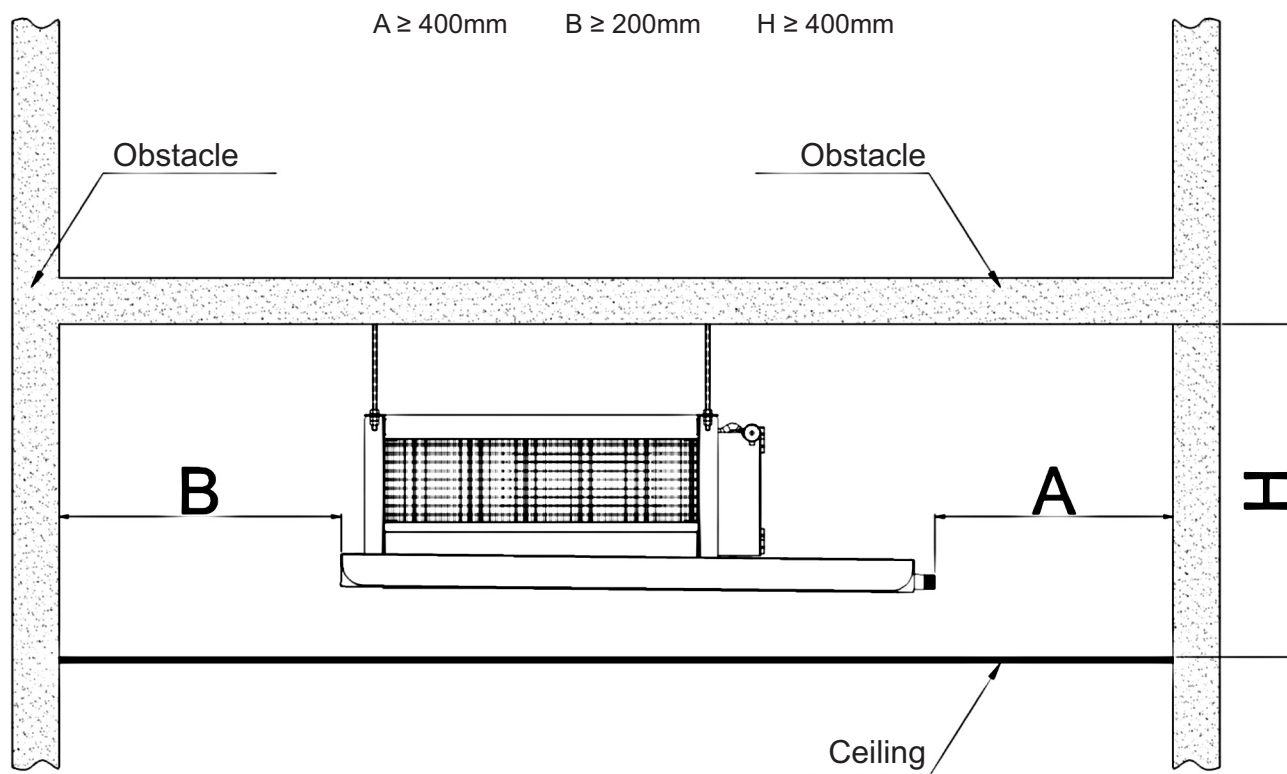
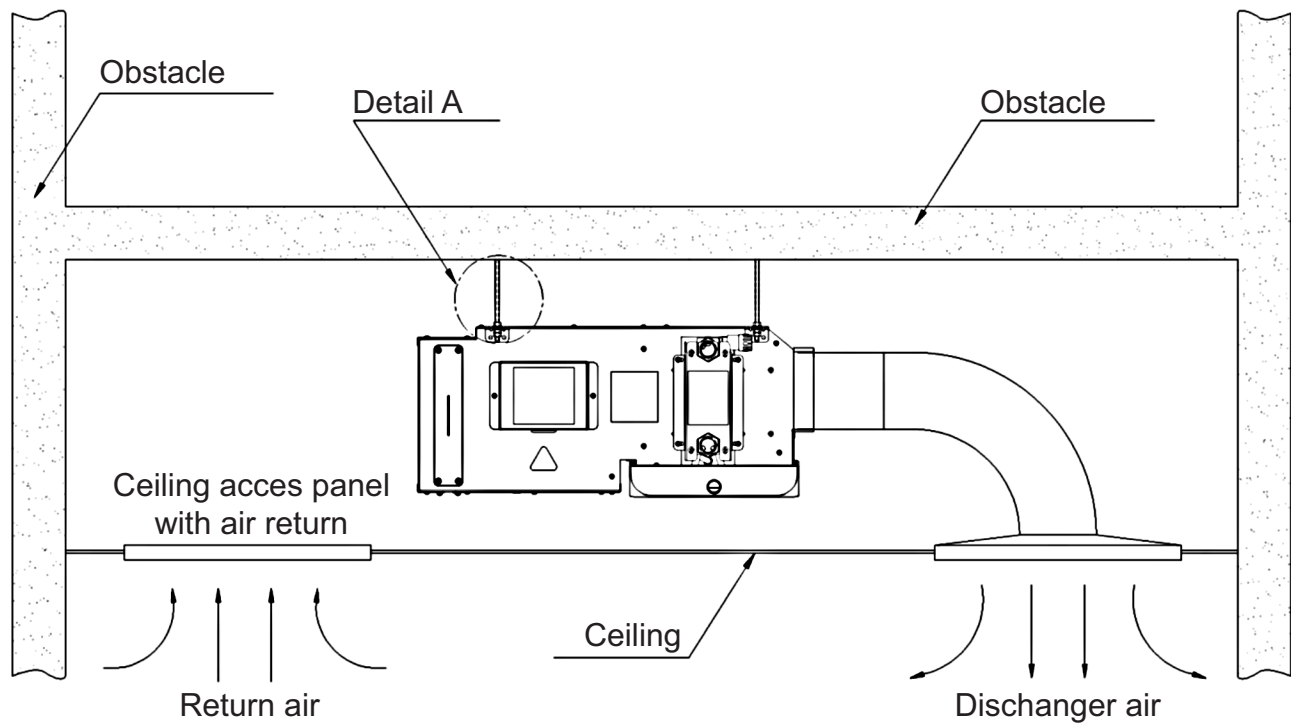
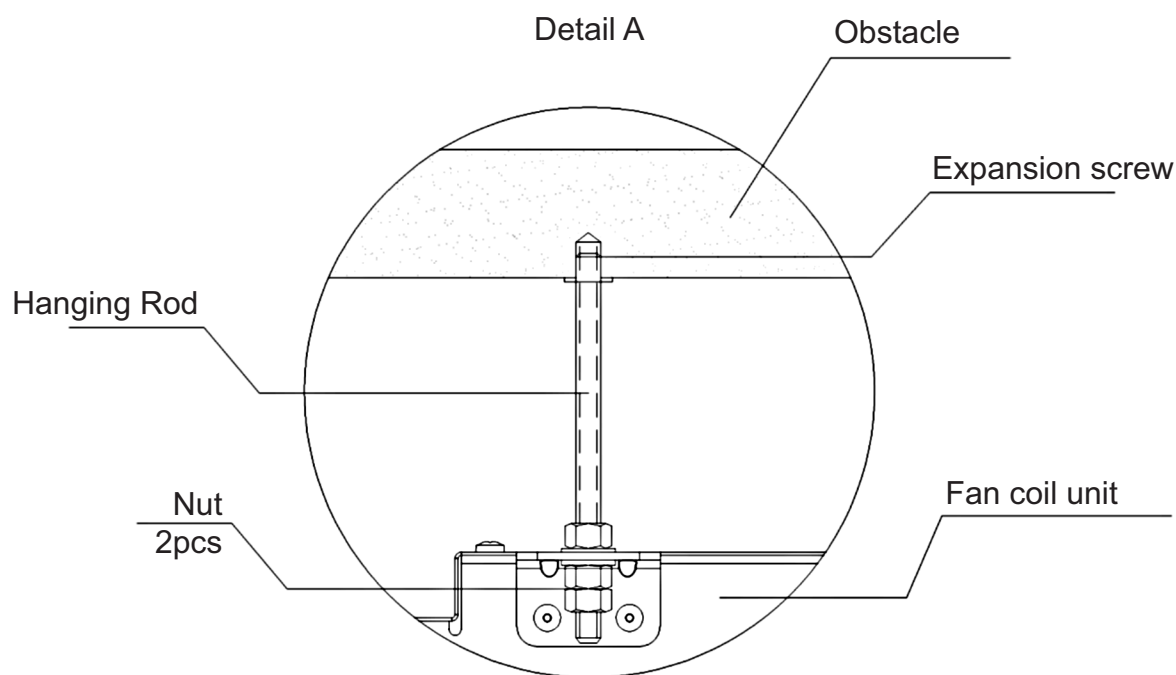
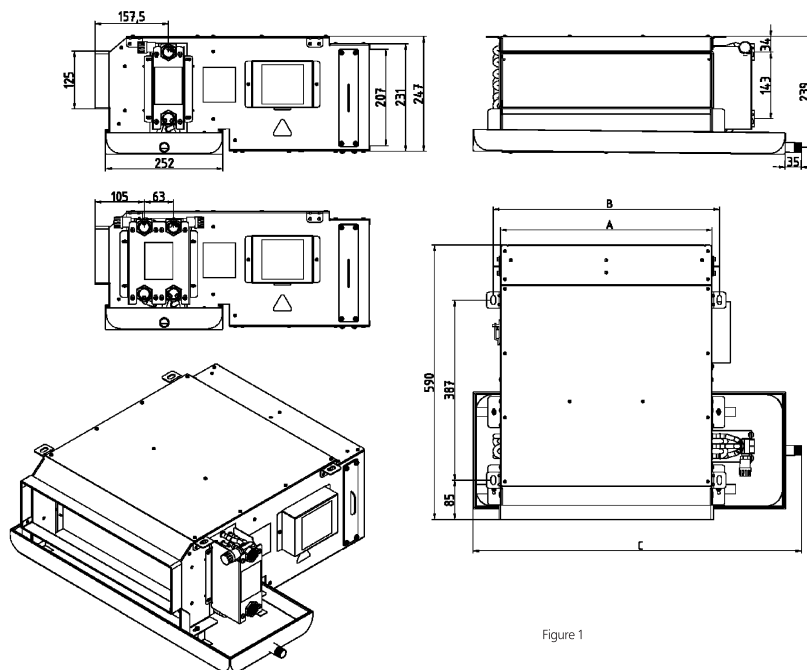

Figure 2
Figure 3
Figure 4
Figure 1
- There are holes on top of the unit for hanging. Please refer to figure 1, figure 3, figure 4.
- 2 Have adequate space for installation and maintenance. Please refer to the unit size figure 1 and the correction diagram. (Figure 2: Gaps around the unit shows the required minimum space.)